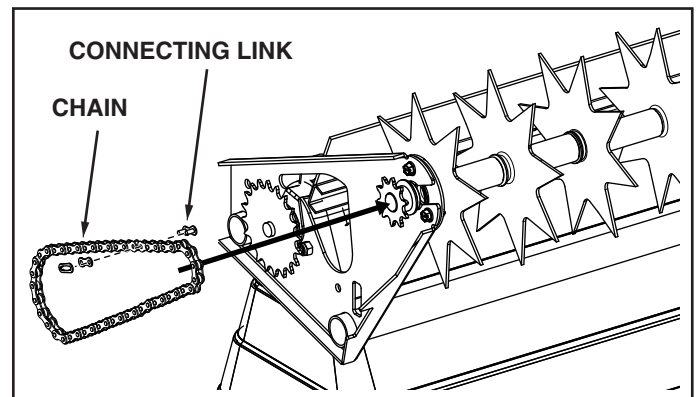

FIGURE 16
23. Assemble the chain around the sprockets, and then fasten the ends of the chain together using the connecting link. See figure 16.